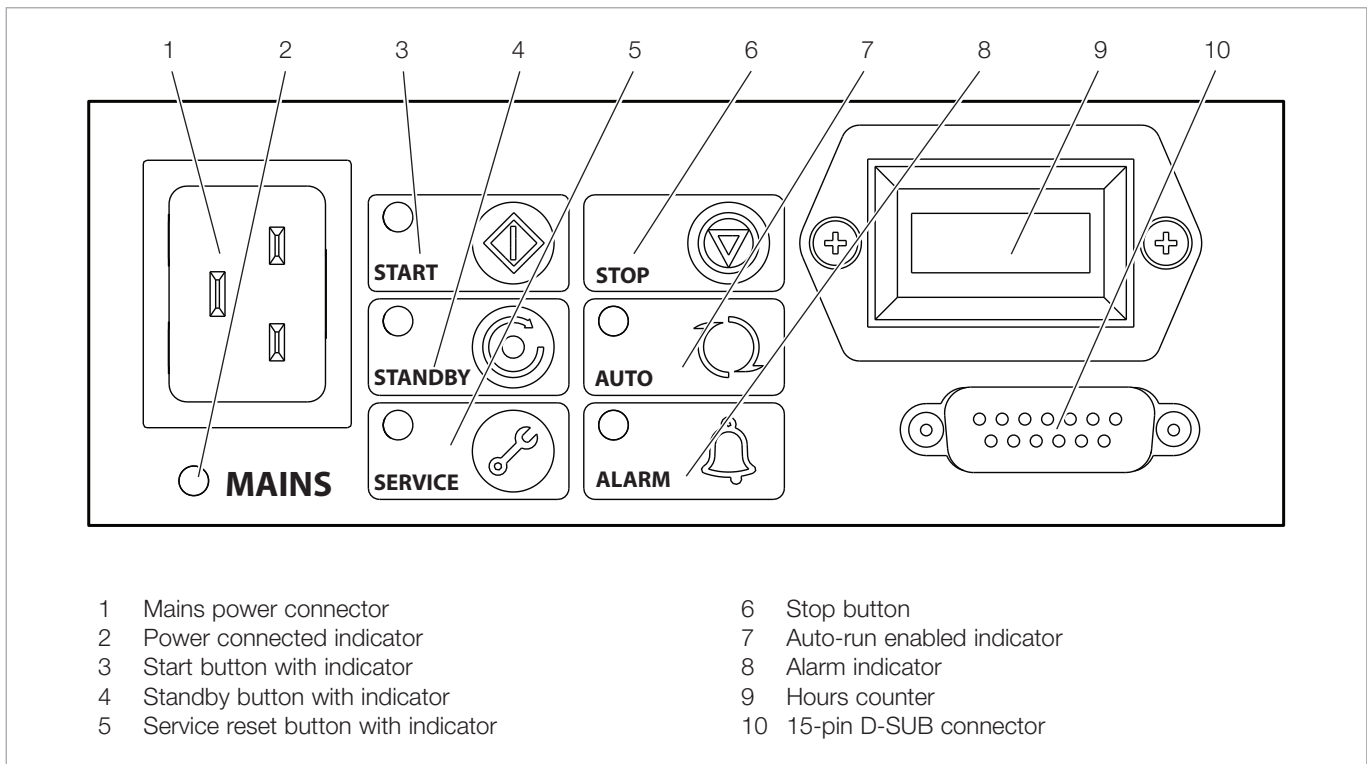

Figure 13 - User interface panel
The pump control functions of the user interface panel are detailed in Figure 13.
Use the buttons (Figure 13, items 3 and 6) to start and stop the pump. Note that the stop command does not isolate the pump from the electrical supply.
- 5 Start the pump system using the appropriate control source, that is, using the Start button in manual control mode (refer to Figure 13); the Start/Stop control input in parallel control mode or a Start command in serial control mode.